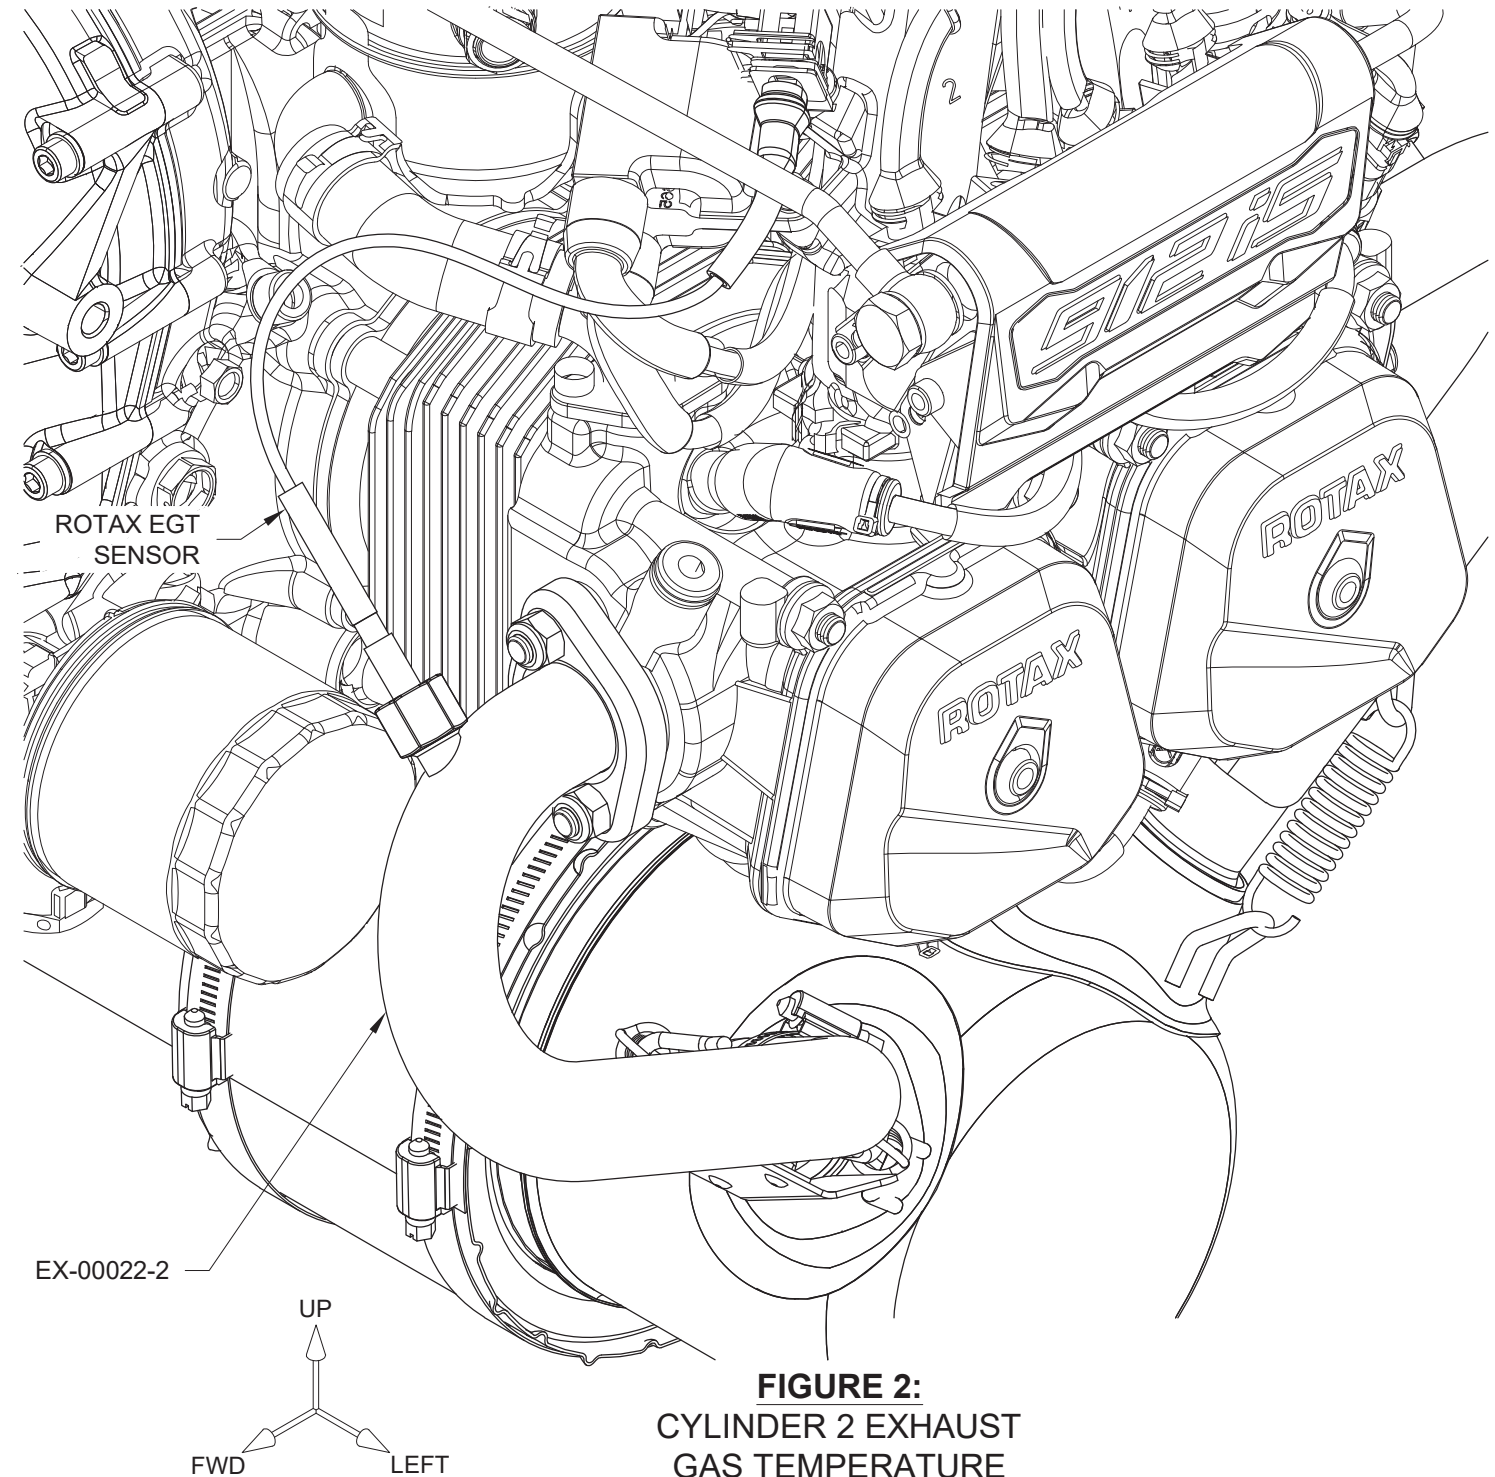

FIGURE 2:
Step 5: Install the Cylinder #2 EGT sensor into the Cylinder #2 exhaust as shown in Figure 2. Ensure the sensor wires are not interfering with other components. Torque the EGT sensor to the value found in the Rotax 912iS Maintenance Manual, Section 76-70-00.